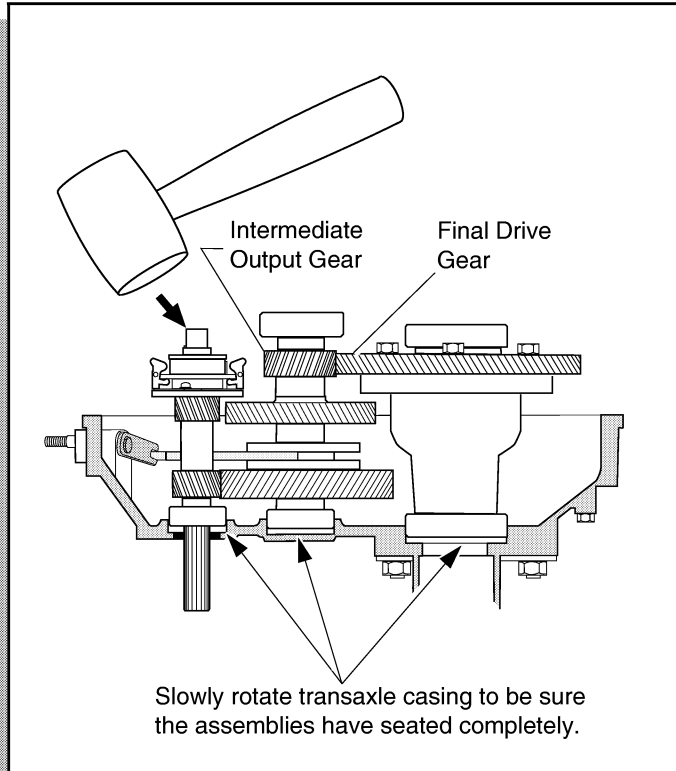

Fig. C-18 Differential Carrier Installation
4. Place the differential carrier assembly in the casing (Ref Fig. C-18 on page C-7).
5. Seat all of the assemblies in the casing (Ref Fig. C-18 on page C-7).